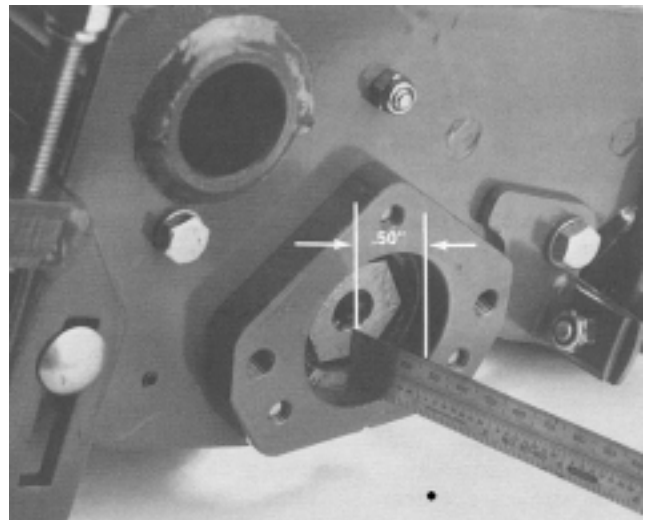

Figure 14
2. After reel shaft assembly has been placed into the frame apply blue loctite #242 unto (6) capscrews before assembly onto (2) outside bearing plates. Install (2) plastic bearing debris seals into opening on side frame before attaching bearing plates to the dethatcher frame.
4. Tighten the (3) capscrews, washers, and lockwashers to 170–220 in-lbs on the driven side of the dethatcher reel assembly with the reel motor acting as pilot for the bearing assembly.
5. Tighten the (3) capscrews, washers, and lockwashers to 170–220 in-lbs on the other end of the reel assembly. Remove reel motor.
6. Position the reel shaft assembly so that the spline nut is .50 inward from the outside surface of the bearing plate (Fig. 14)